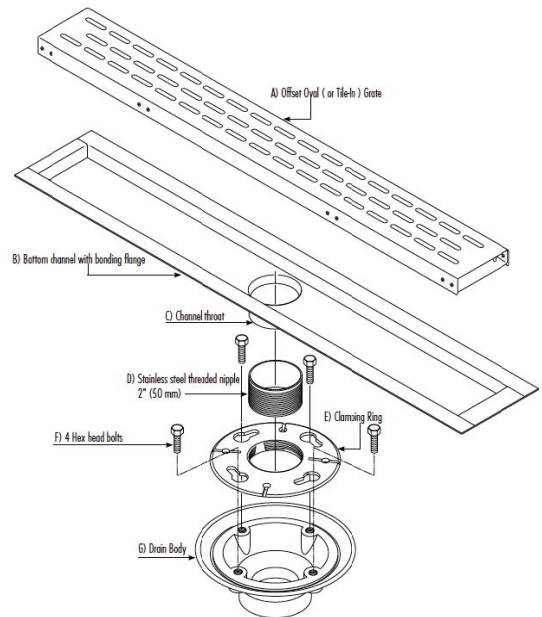

Fig. 4
**Installation Instructions (Fig. 4)** When a drain installation requires
a clamping ring with a primary shower pan this can be provided as a custom HYDRO BAN Linear Drain with a 2" (50.8 mm) threaded nipple 1 1/2" (38.1 mm) length. The installation instructions are as follows in Fig. 4.